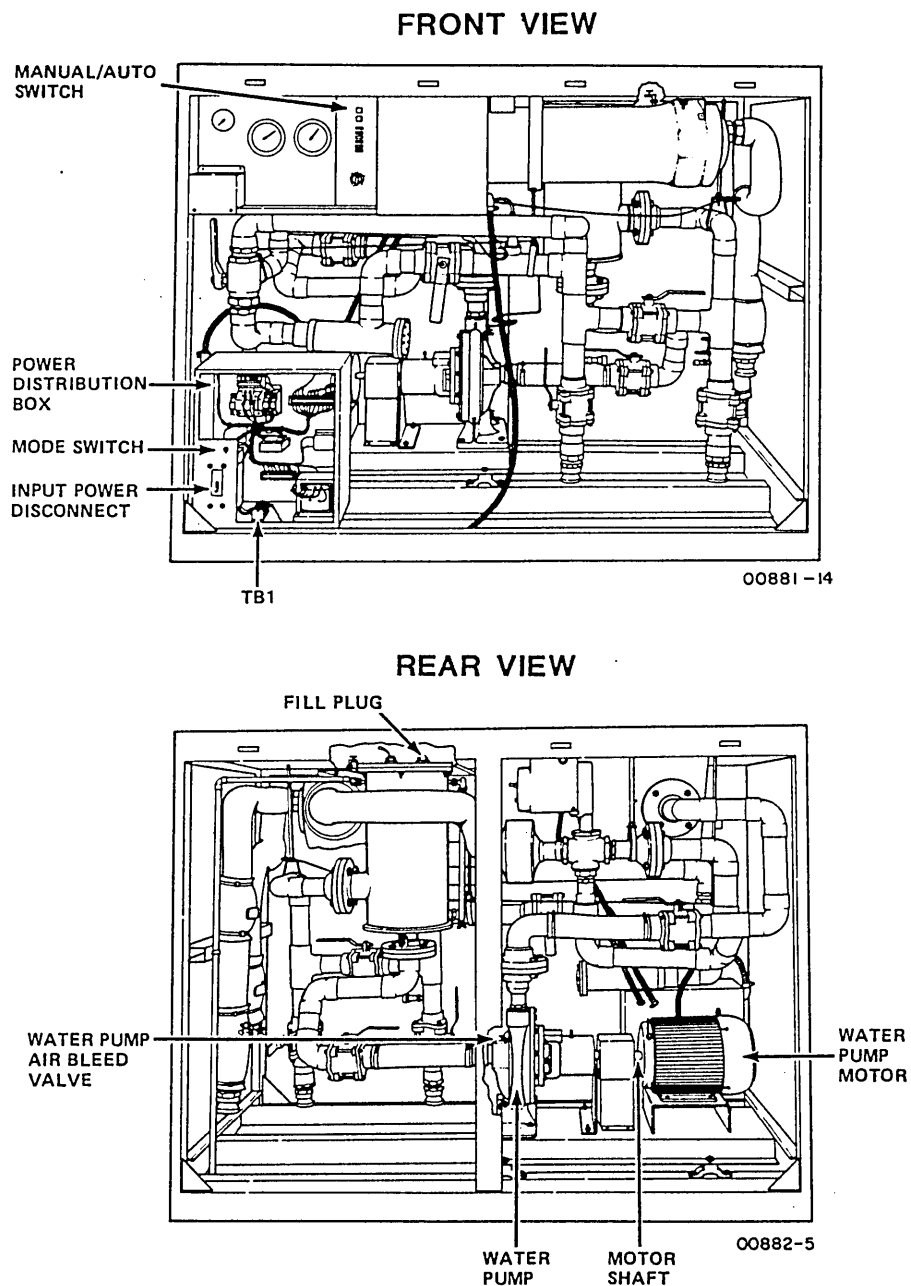

Figure 3-27. Pump Rotation Check on 220-L/min (58-gal/min) Unit
- ___ 1. Set INPUT POWER DISCONNECT circuit breaker (figure 3-27) on front of water cooling unit to OFF.